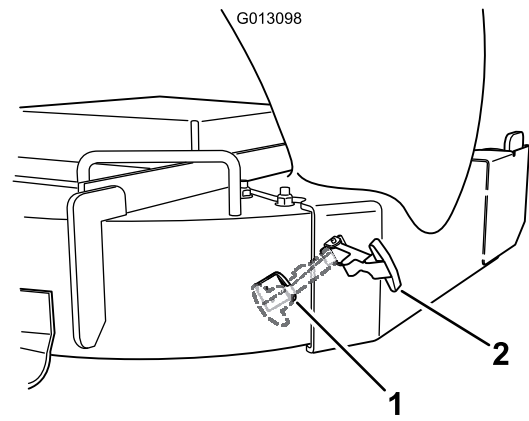

Figure 20
8. Hook the flexible latch on the chute to the retaining clasp welded to the side wall of the mower deck (Figure 20).